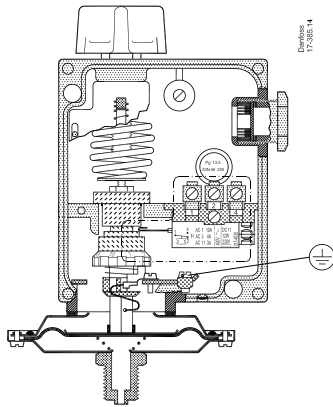
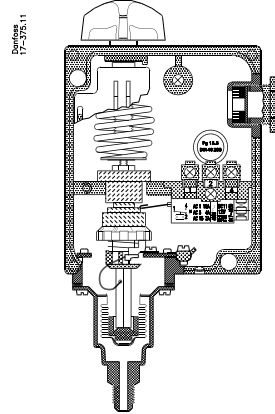
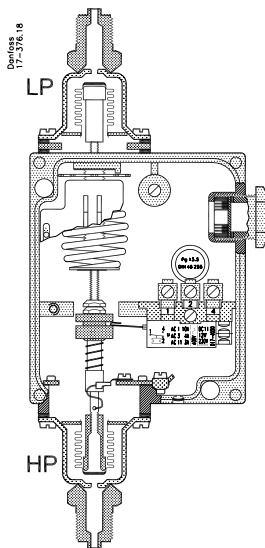
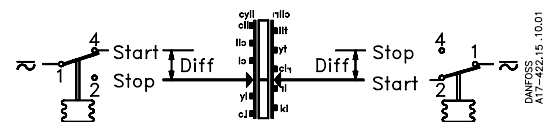

Fig. 1
Fig. 2
Fig. 4
Fig. 8
## Electrical connection (see fig. 8 and fig. 9)
**RT 1AE, RT 116E, RT 5E, RT 117E, RT 112E, RT 113E, RT 121E (see fig. 1, fig. 2 and fig. 8)**
**See fig. 4 and fig. 8**